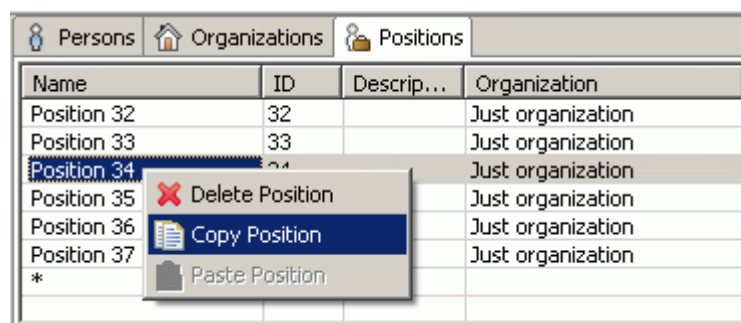

Figure 5. Context sensitive menu in Positions panel, Copy Position
- Right click on an applicable position in the table list. A context sensitive menu appears (see Figure 5).